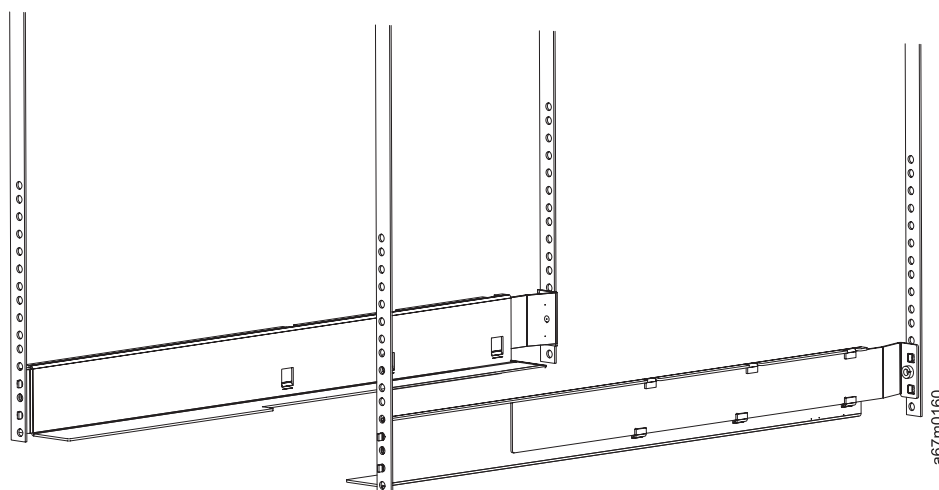

Figure 32. Fully assembled rack mount hardware
- 6. Tighten all four screws securely because they need to support the weight of your library. Then, compare your rail installation to Figure 32.